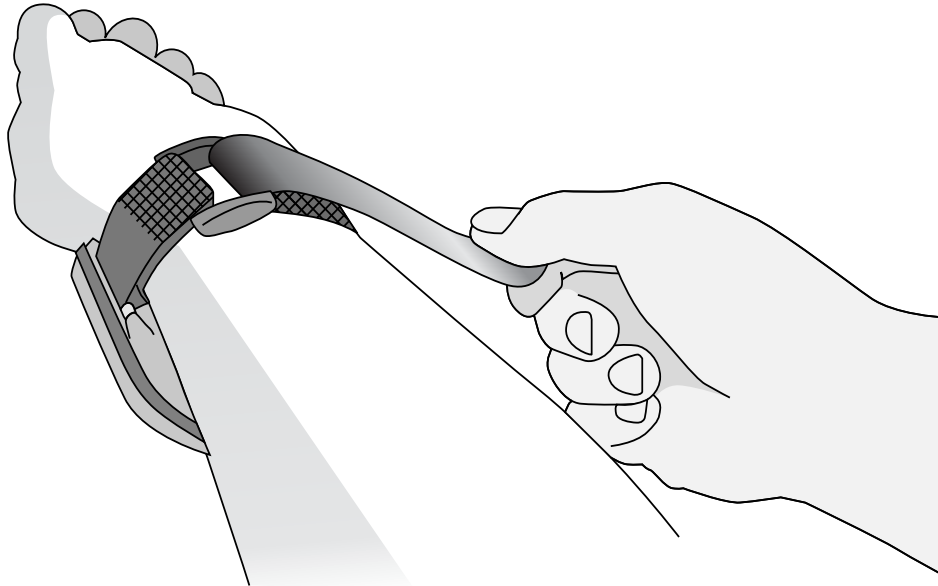
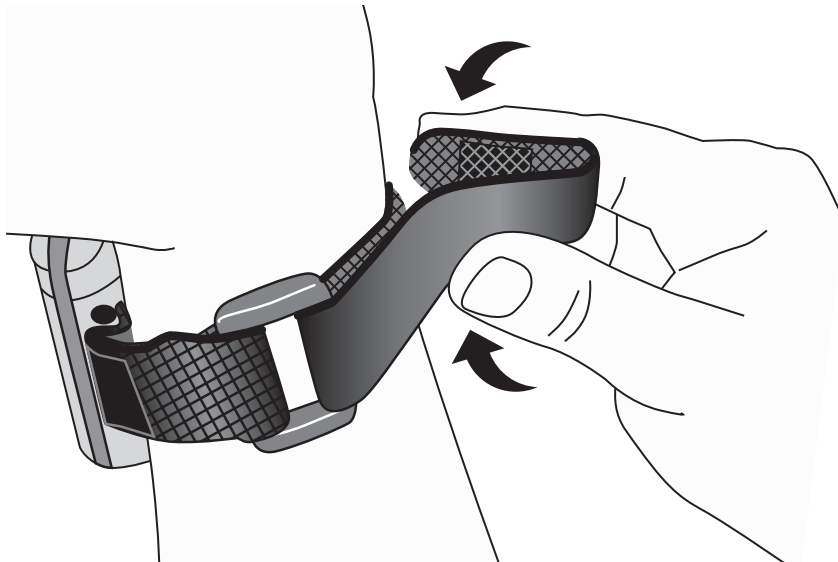
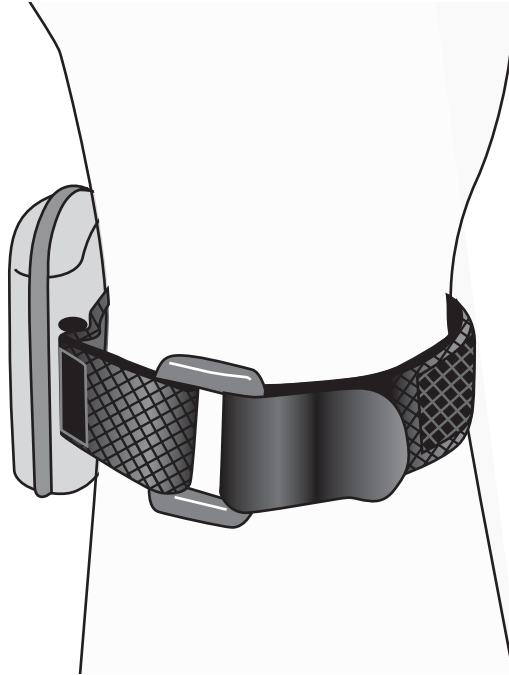

Figure 14: Fasten Wristband
Figure 15: Using the Rectangle Fastener
Figure 16: Using the Square Fastener
4. Fold the wristband back over the plastic ring (figure 14) and attach the fastener to the wristband (figure 15 or figure 16). Wrist circumference will determine which fastener is used.
NOTE: When using the rectangle fastener, the end of the wristband can be shortened. To do so, fold the end of the wristband so the square fastener attaches onto the wristband (figure 15).